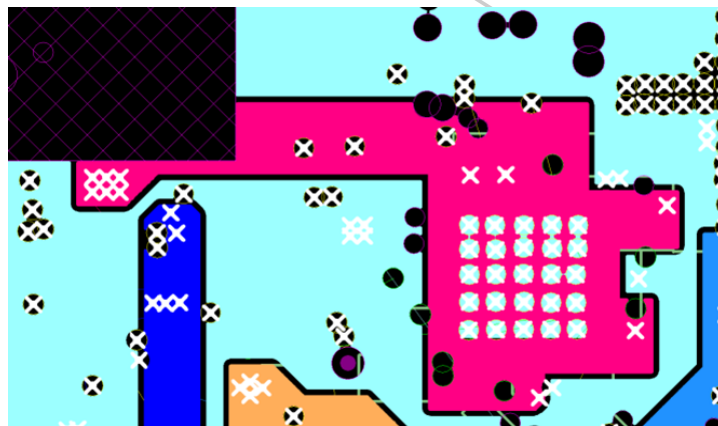

Figure 4.12: 5V Plane (Pink Plane) of Layer 3.
- It is recommended to put the 5V power plane in layer 3 and circle with AFE GND pad consistently, as shown in Figure 4.12.